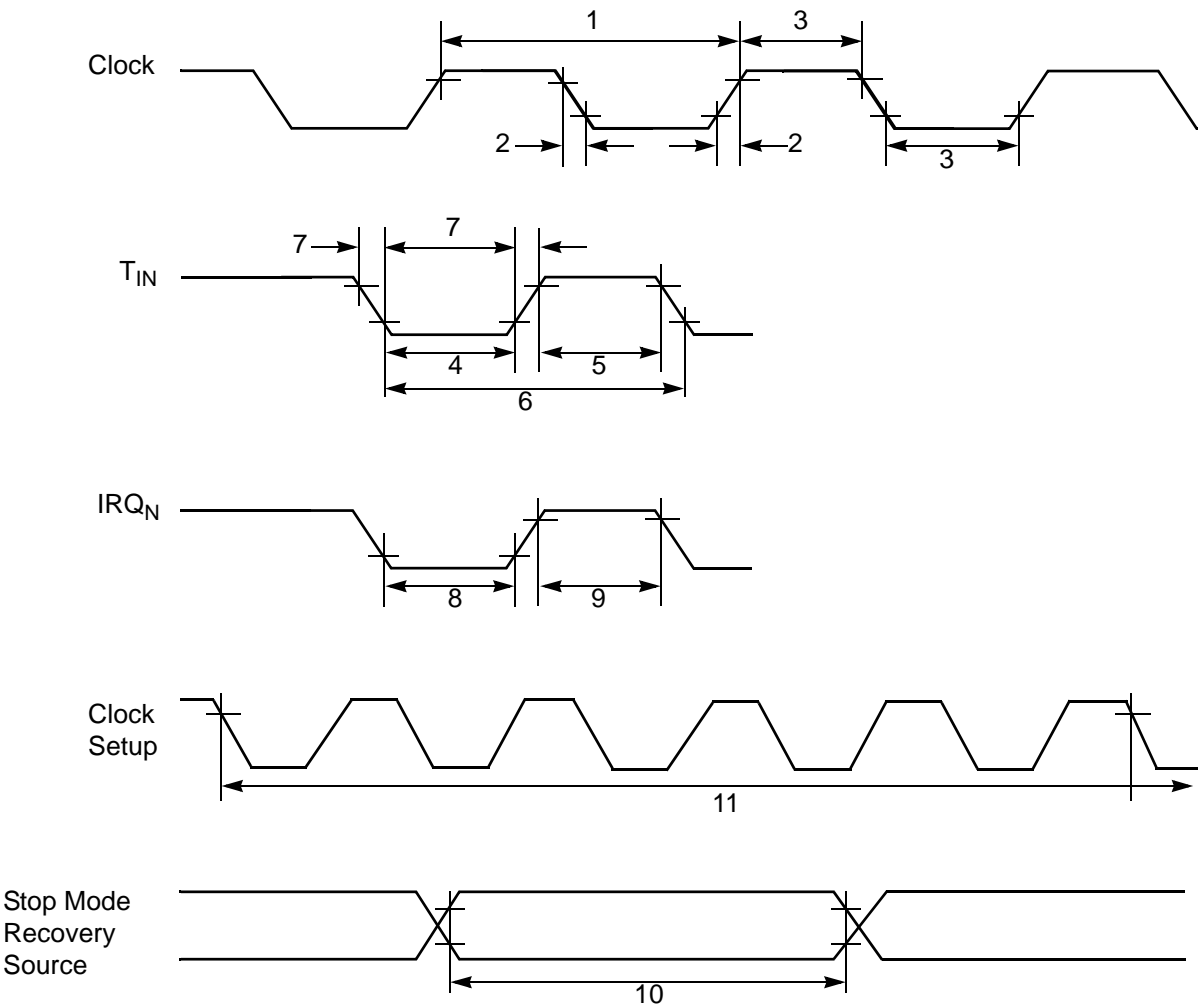

Figure 6. AC Timing Diagram
Figure 6 and Table 9 describe the Alternating Current (AC) characteristics.